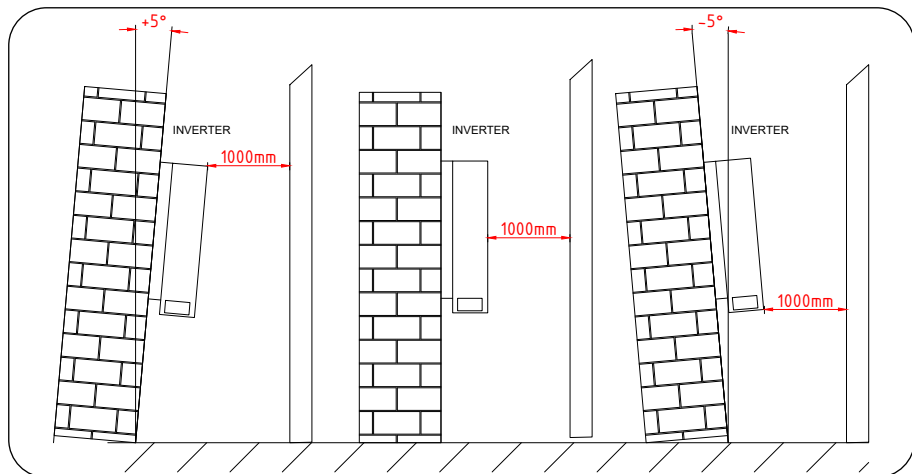
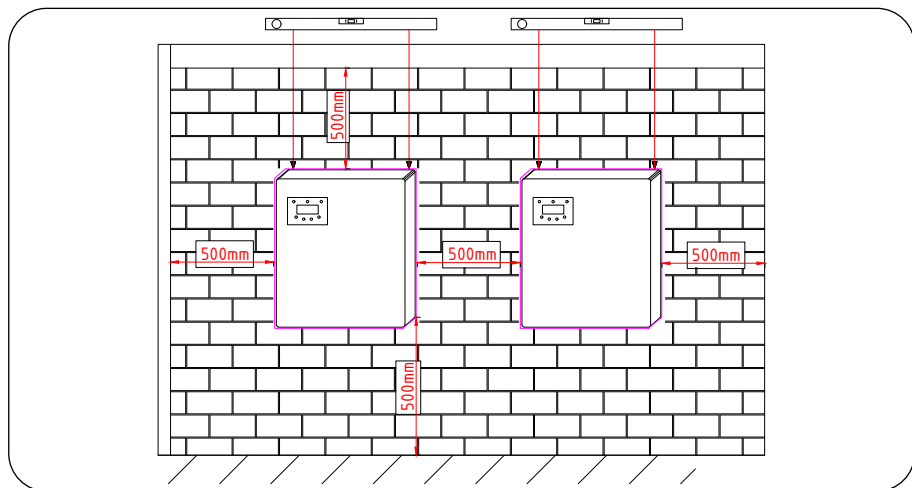

Figura 7 - Inverter Mounting clearance, side view
Figura 8 - Minimum inverter mounting clearance, front view
- Install vertically with a maximum incline of  $\pm 5$  degrees, exceeding this may cause output power derating (see Figura 7 and Figura 8).